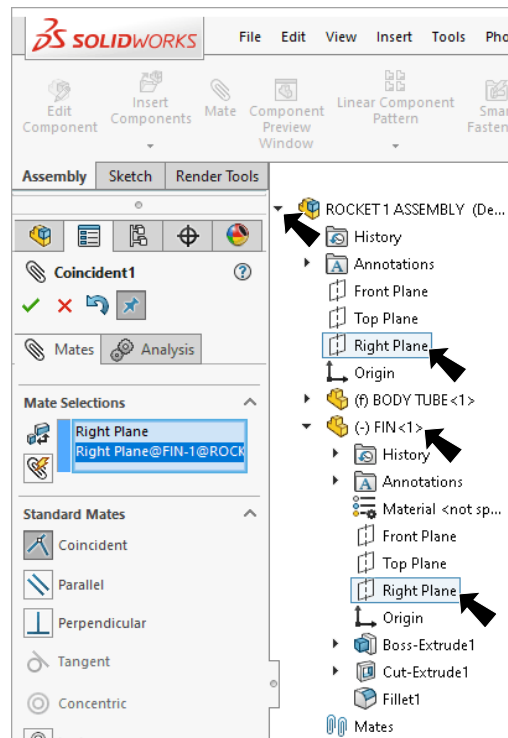

Fig. 3
- Step 2. Expand the flyout Feature Manager design tree (click ) in the top left corner of the graphics area and click **Right Plane** , **Fig. 3**.
- Step 4. Expand **FIN** and click **Right Plane** , **Fig. 3**.